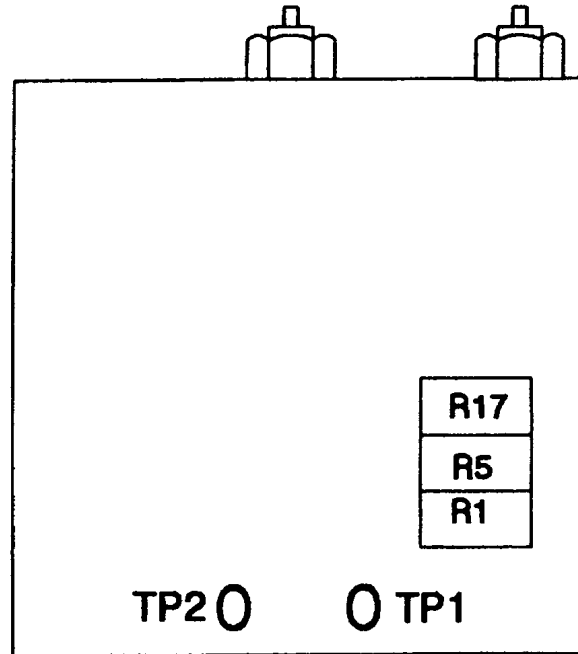

Figure 10. Probe control and function switch board.
- (1) Connect multimeter between TP1 (+) and TP2 (-) probe control and function switch board (fig. 10). If multimeter does not indicate between 7.255 and 7.295 mV dc, adjust R1 (fig 10) for 7.275 mV dc.
- (2) Adjust R5 (fig. 10) for stabilization temperature of 100 °C, with **PROBE POWER** lamp flashing.
- (3) Adjust R17 (fig. 10) for stabilization temperature of 600 °C, with **PROBE POWER** lamp flashing.